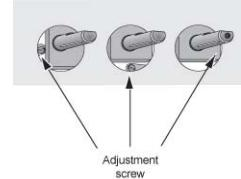

Figure8
- The adjustment screw may be located at the centre of the gas tap control shaft or on the gas tap body, left of the control shaft or below (see figure 8*).